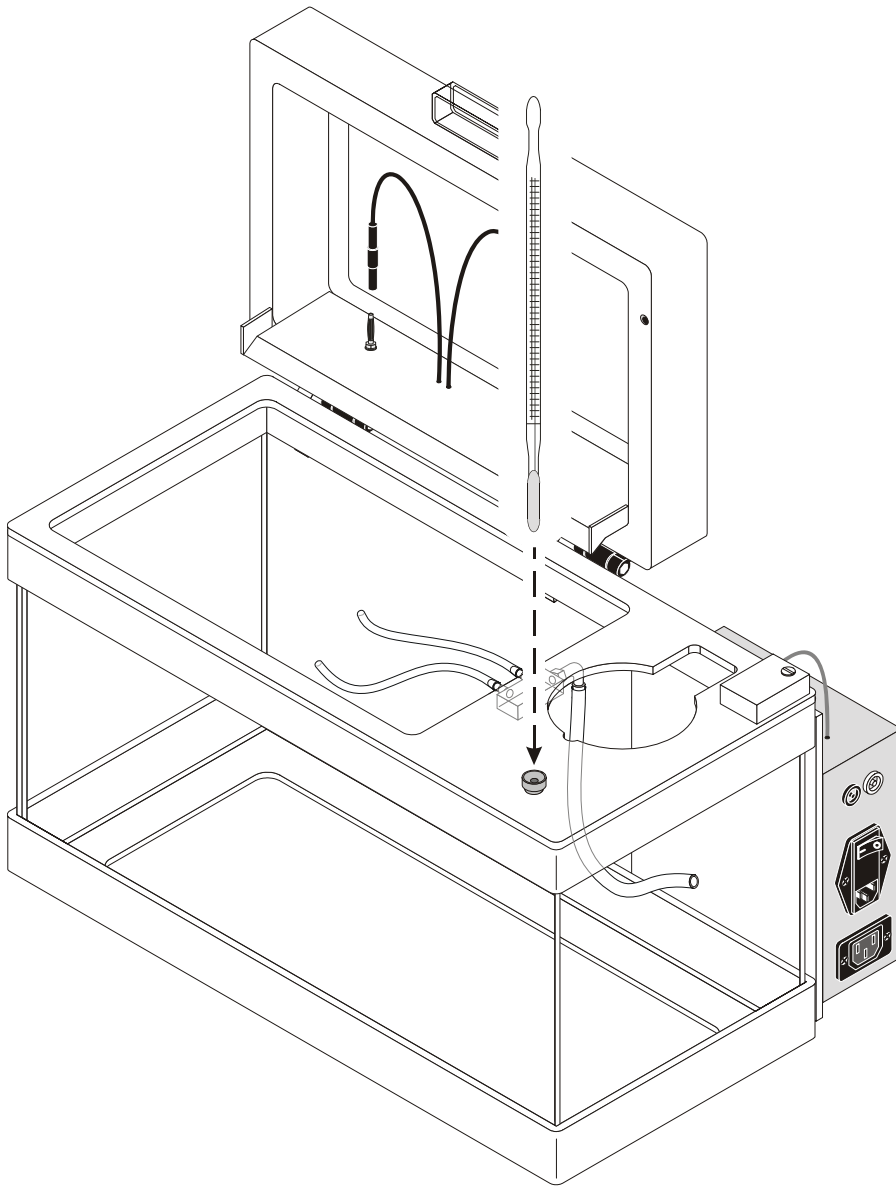

Fig. 3-2
10. Turn Heater/Stirrer “On” and set temperature to 60°C (Figure 3.2)